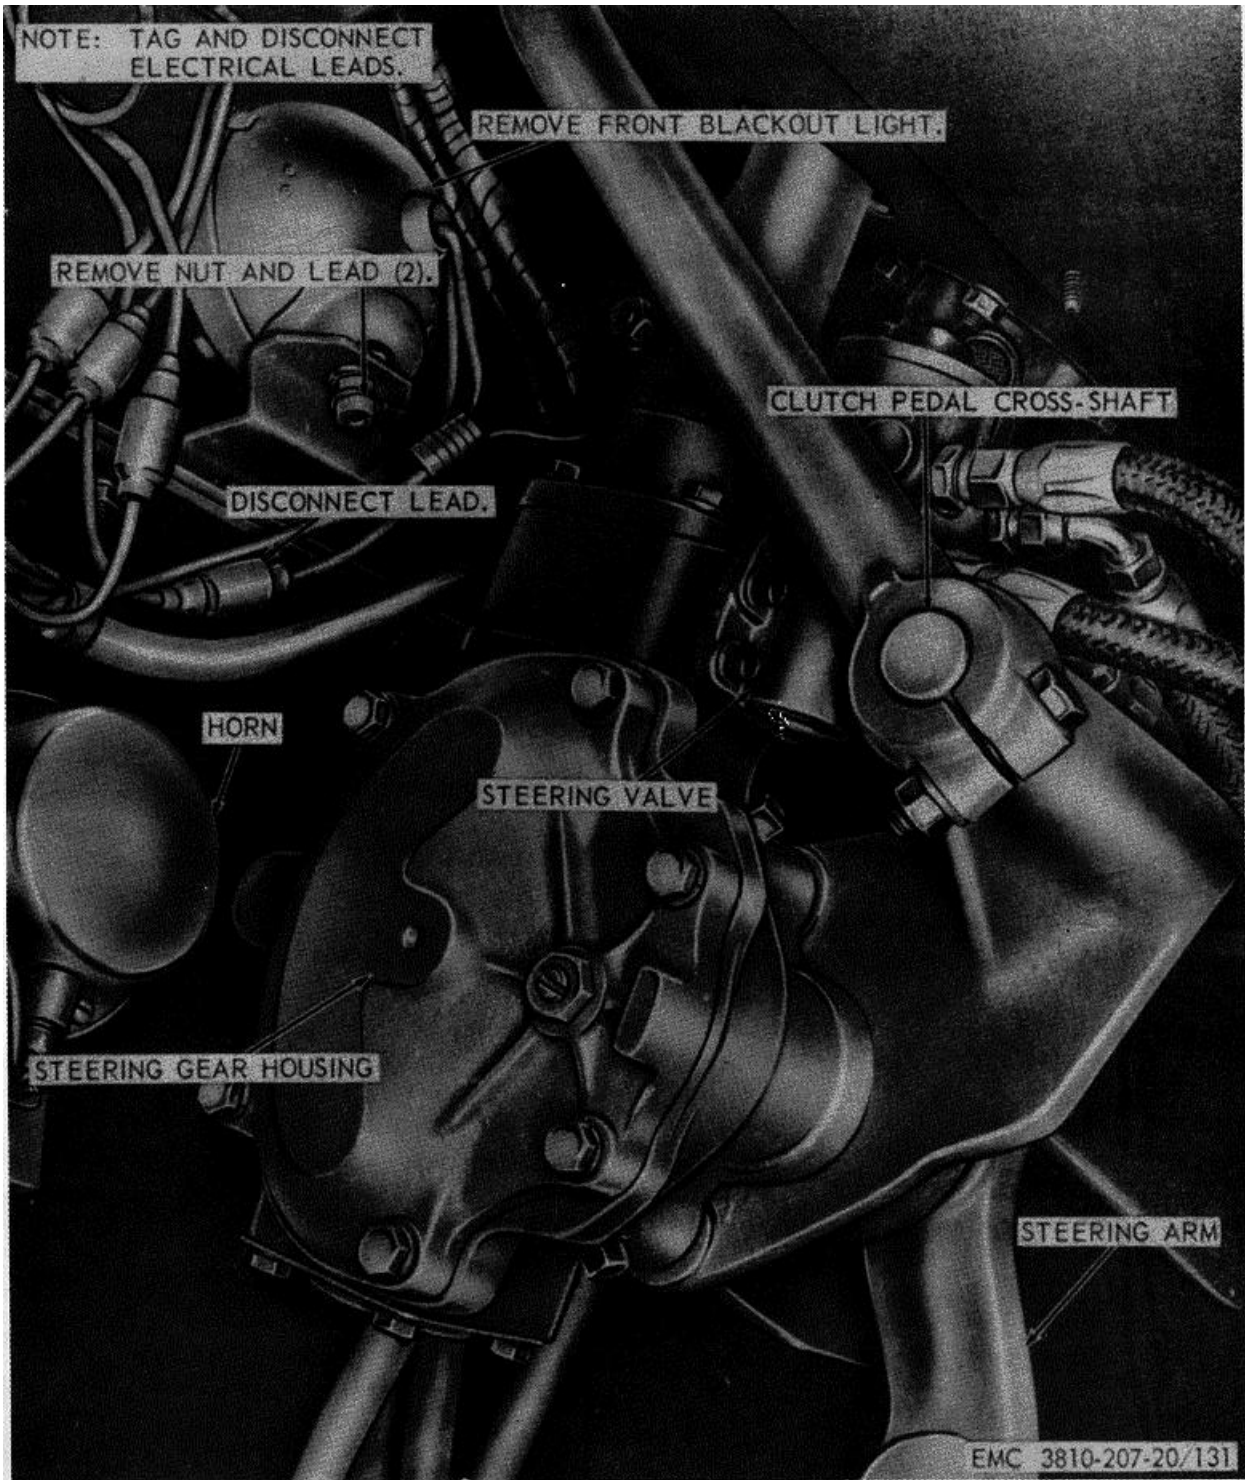

Figure 131. Front blackout headlight, removal and installation.
e. Installation. Install the front blackout headlight as illustrated on figure 131.